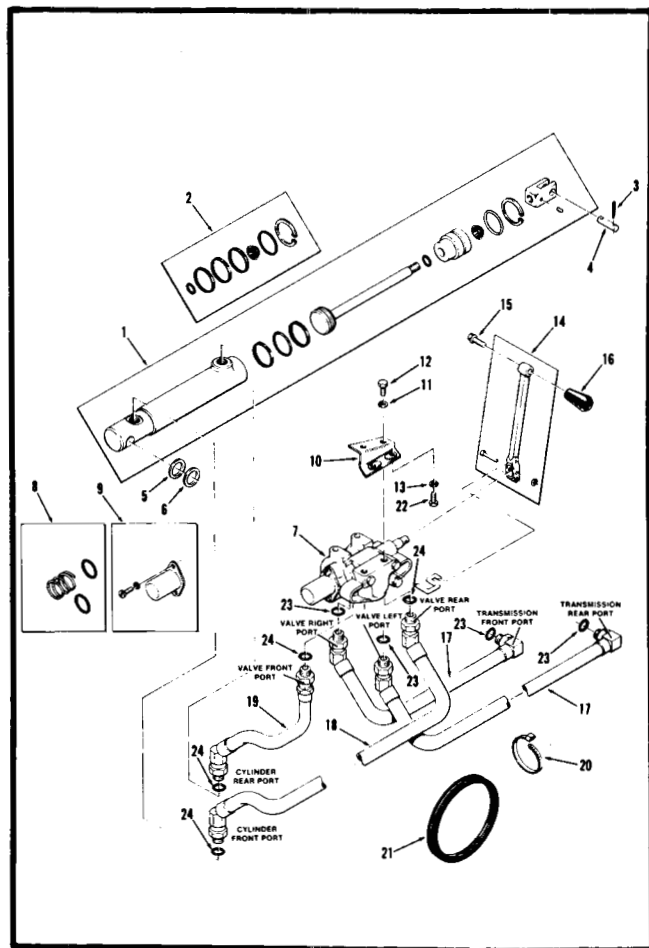

Fig. 7-3 C-Series Hydraulic Lift Components
Refer to Fig. 7-3 during the following procedure.
3. Replace "O" rings, gaskets, and seals with parts supplied in rebuild kit, shown as No. 3 in Fig. 7-3.